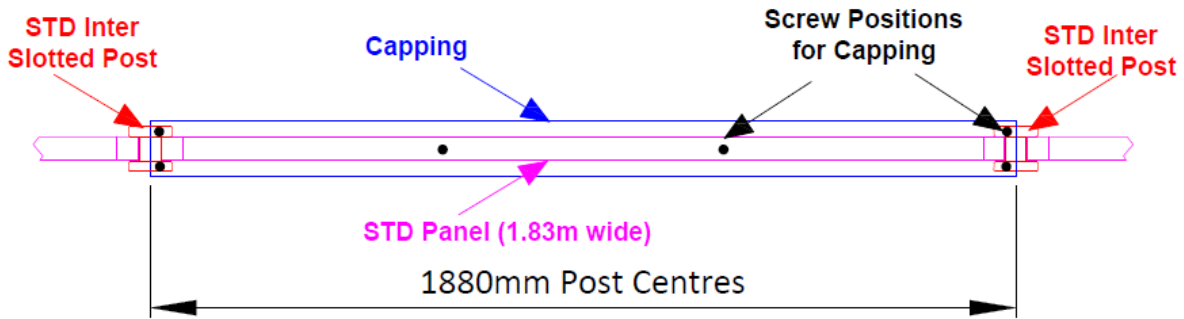
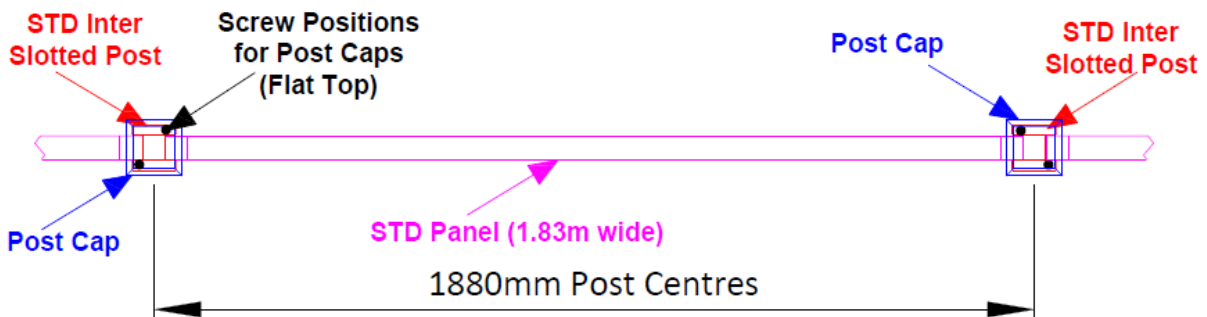

Figure 1
Figure 2
10) Nail the capping rail or the post caps onto the tops of the posts. Nails should be 'dove tailed' - \ / - to maximise the strength of the fixing. Alternatively screws can be used. The approximate position for the fixings are shown as black dots "●" in the sketches below (Figure1 for Capping Rail & Figure2 for Flat Top Post Caps).